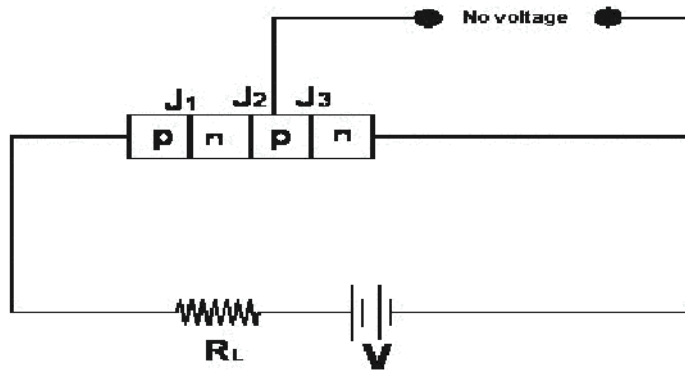

Fig.6.7 SCR with gate open
- (1) When Gate is open: Fig.6.7 shows the SCR circuit with gate open i.e. no voltage is applied to the gate. Under this condition, junction J_2 is reverse biased while junction J_1 and J_3 are forward biased. Hence, the situation in the junctions J_1 and J_3 are just as in NPN transistor with base open. Consequently, no current flows through the load R_L and the SCR is Cut-off. However, if the applied voltage is gradually increased, a stage is reached when reverse biased junction J_2 breaks down. The SCR now conducts heavily and is said to be in the ON state. The applied voltage at which SCR conducts heavily without gate voltage is called breakover voltage. Commercially available SCRs have breakover voltages from about 50 V to 800 V.